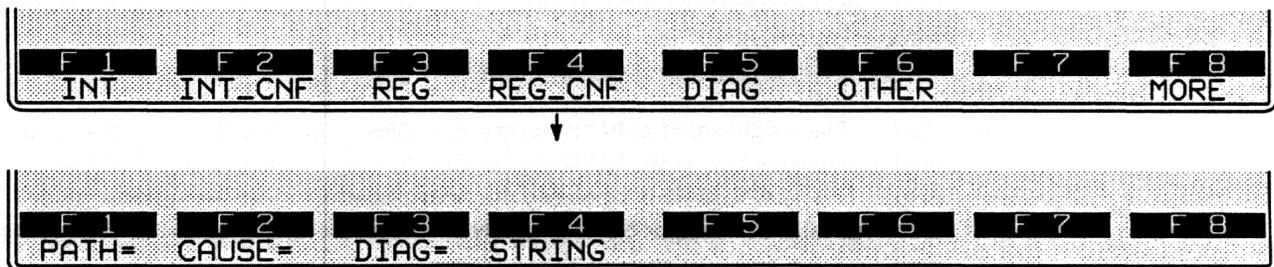
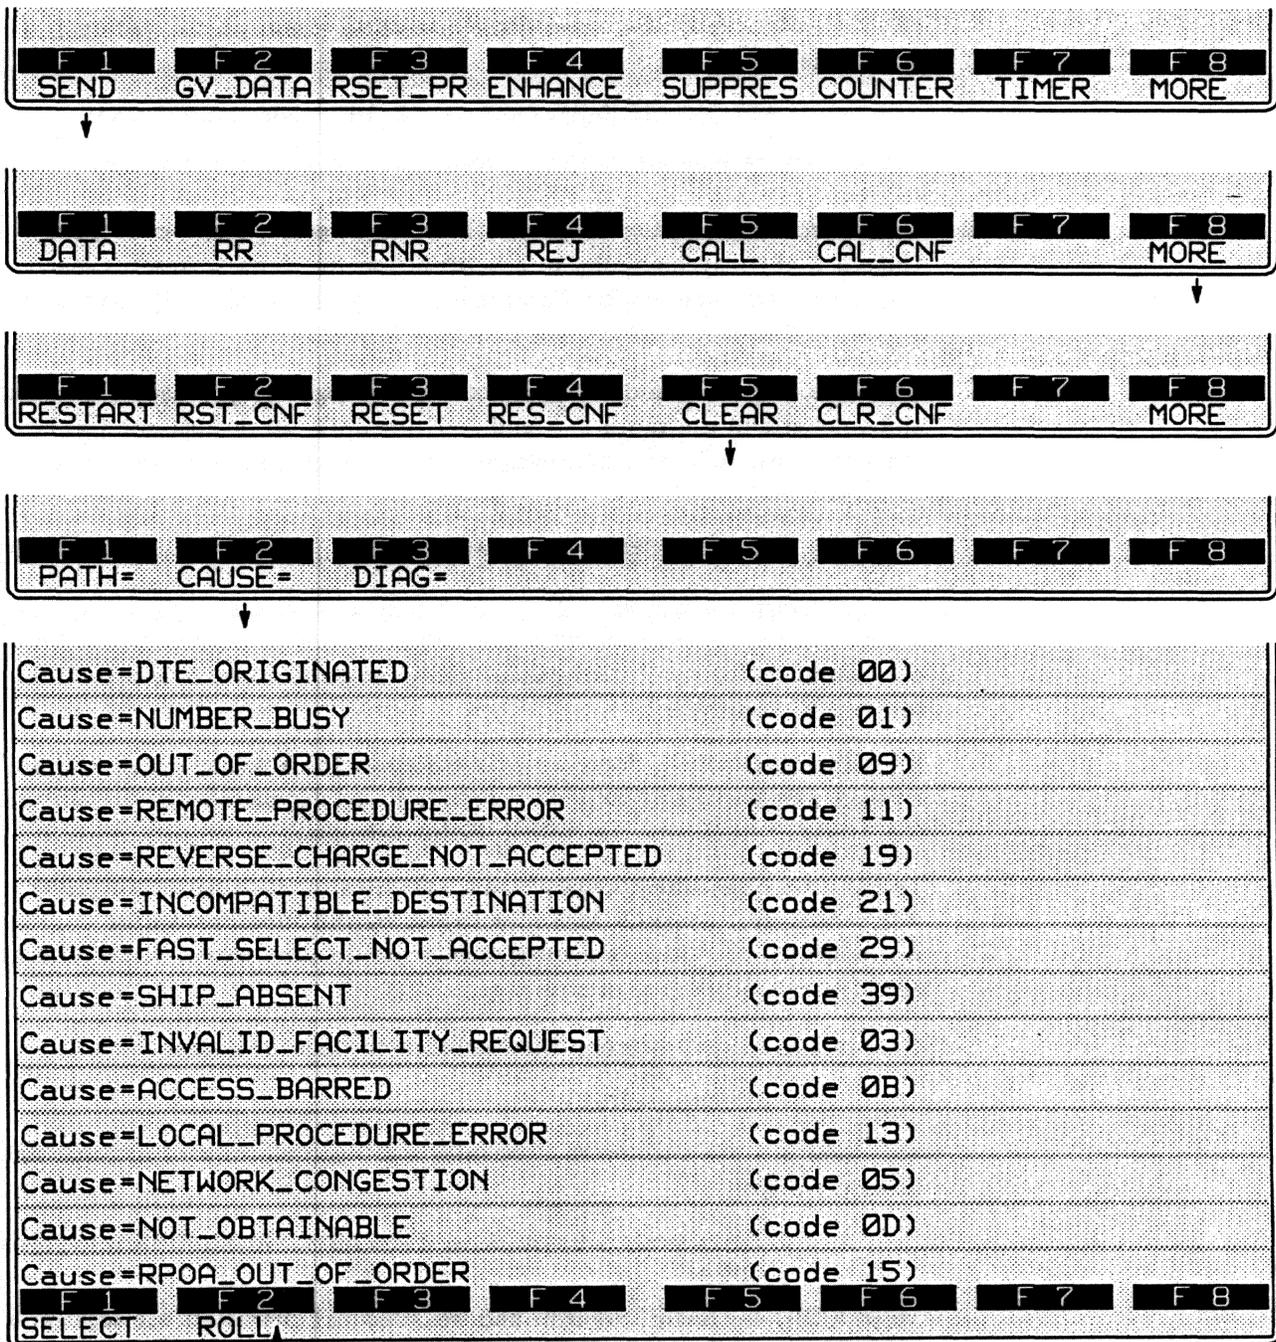

Figure 34-25 Four optional parameters may be added to a SEND REG_CONF action.
Figure 34-29 These causes are available for a *SEND CLEAR* action.
Figure 34-25 shows the softkey rack under Registration Confirm, an unnumbered-packet type with the four possible softkey parameters.
Press the softkey for one of these SEND actions, then press **[F2]**, CAUSE. See Figure 34-29. The names of the causes as well as their hexadecimal values are indicated on the softkey-prompt line near the bottom of the screen.
To specify a particular cause, the user does not have to memorize cause codes or consult a table. Instead he presses **[F2]**, ROLL, and repeats the keystroke to cycle through the list of cause names for a given packet type. Figure 34-29 shows the cycle of causes that pertain to Clear Request packets. The user presses **[F1]**, SELECT, when the right cause has “rolled” onto the prompt line. The SELECT softkey writes the current cause onto the spreadsheet screen.
11. *Diagnostic.* Two digits representing the one-byte diagnostic-code field (Figure 34-6) may be added to a SEND action for Restart, Reset, Clear, Diagnostic, and Registration Confirmation packets. Refer to **[F3]**, DIAG=, in Figure 34-29 or in the lower rack of Figure 34-25.